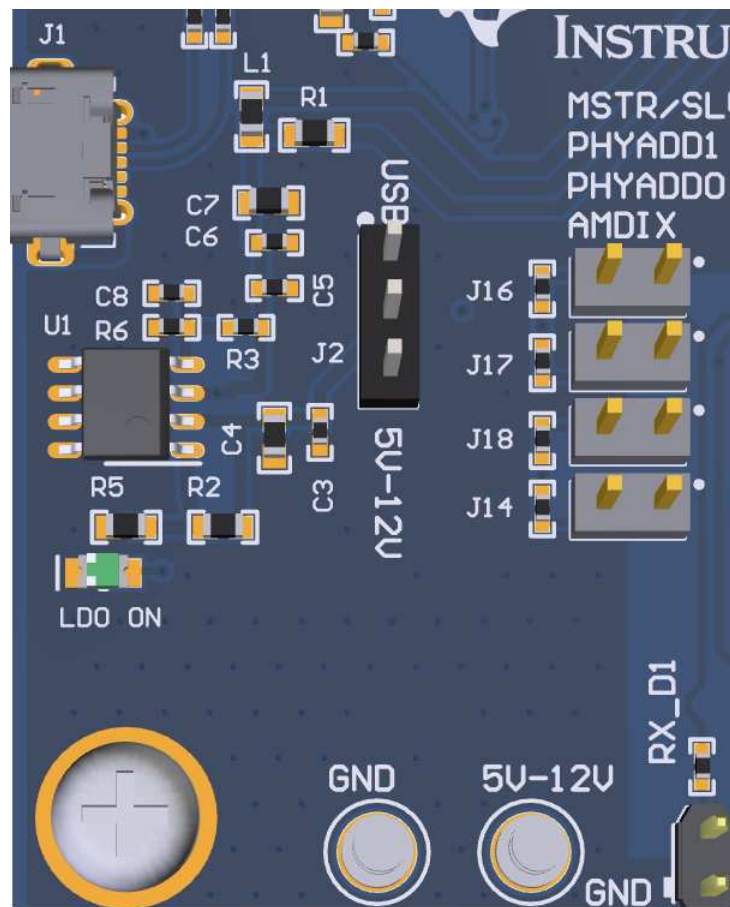

Figure 3. LDO Operation
- For Turret, connect jumper to position 2-3 on J2 connector as shown in Figure 3 and supply power through '5V-12V' and 'GND' turrets.
- For USB power, connect jumper to position 1-2 on J2 connector as shown in Figure 3 and supply power through J1 USB connector.